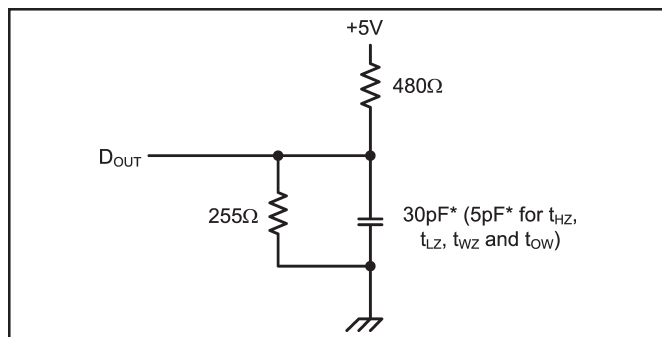

Figure 1. Output Load
- Transition is measured  $\pm 200mV$  from steady state voltage prior to change with specified loading in Figure 1. This parameter is sampled and not 100% tested.
| Output Load                   | See Figures 1 and 2 |